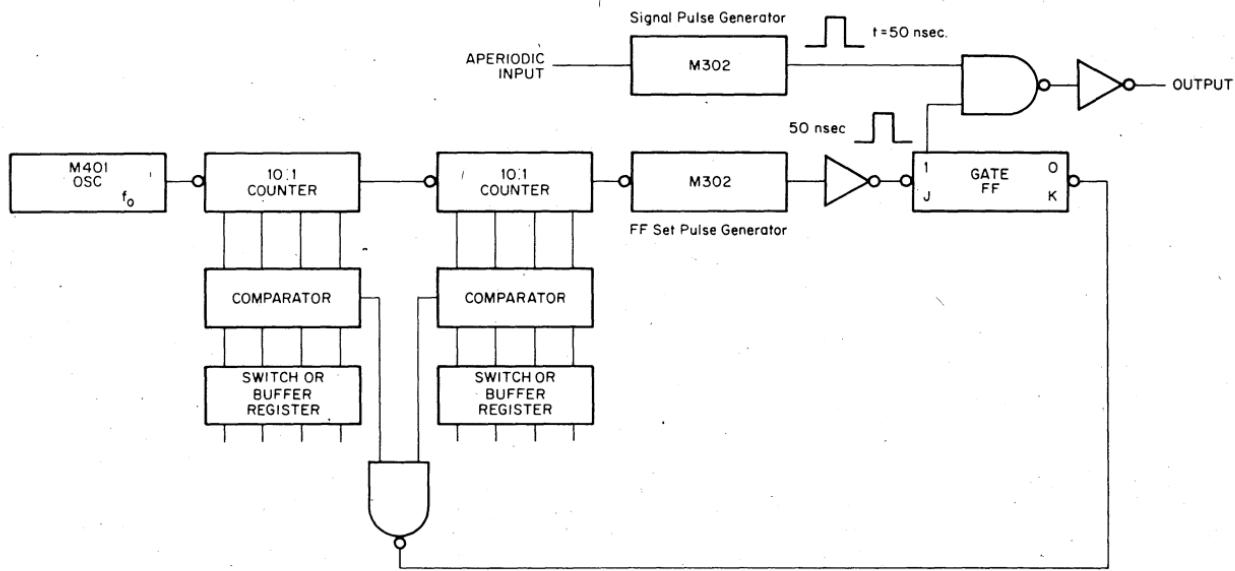

Figure 2
2. The input must be aperiodic. (Usually obtained from animal response.) It is sometimes desired that the percentage probability be altered during the course of the experiment. Figure 2 illustrates the generation of a variable percentage probability.